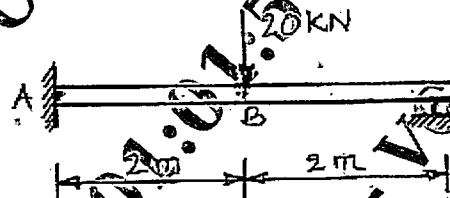

Fig. Q7 (b)
- 7 a. Derive the statically equivalent nodal force vector for a two noded beam element subjected uniformly distributed load (W). (08 Marks)
- b. A beam with fixed end and roller support is subjected to a point force of 20 kN as shown in Fig. Q7 (b). Determine (i) Transverse forces and bending moments, and (ii) Deflections and slopes at points A, B and C. Take $E = 2 \times 10^8 \text{ kN/m}^2$ and $I = 8 \times 10^{-6} \text{ m}^4$. (12 Marks)